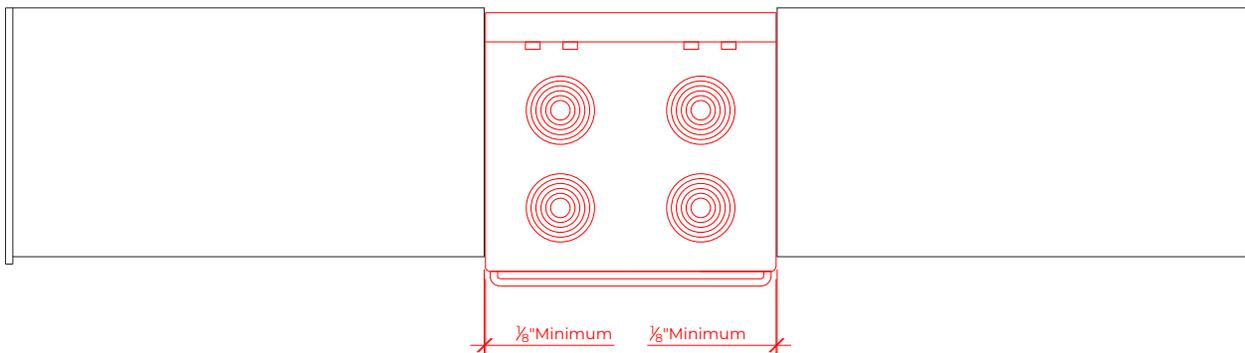

FIGURE 5
- Design all Cambria countertops to provide $\frac{1}{8}$ " (0.125") additional clearance along all sides between top opening and appliance/sink. This additional clearance will allow for expansion. See Figure 5.